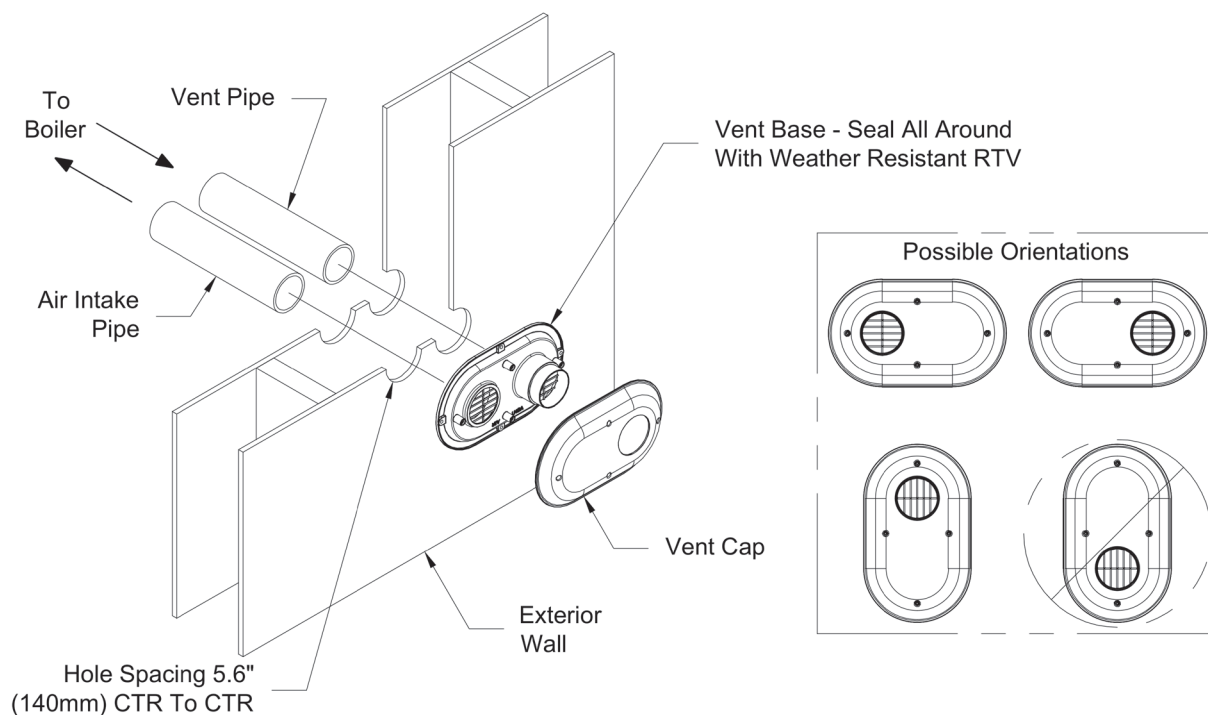

Figure 7.29: Installation of IPEX Low Profile Terminal Through Sidewall
5. Installation of IPEX low profile vent terminal (Terminal Option B) - See Figure 7.29: